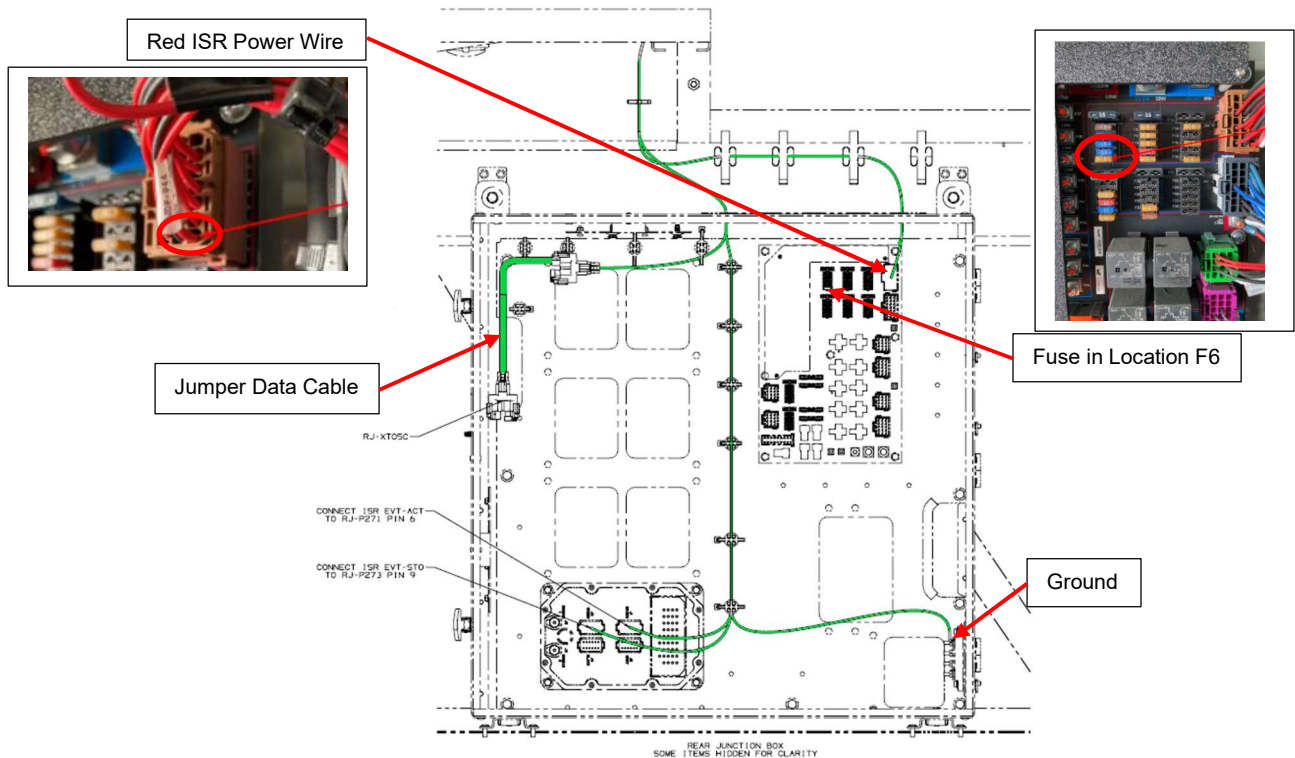

Figure 4: New Accelerometer Harness Installation in Junction Box.
11. Inside the junction box, route the harness as seen in Figure 4.